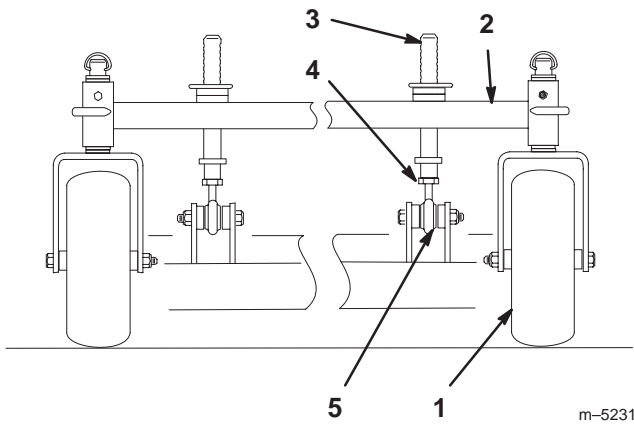

Figure 51
1. To change the front-to-rear pitch, the front height-of-cut posts can be adjusted (Fig. 51).
2. To raise the front of the deck, loosen jam nut and rotate the front pin clockwise (Fig. 51).
3. To lower the front of the deck, loosen jam nut and rotate the front pin counter clockwise (Fig. 51).